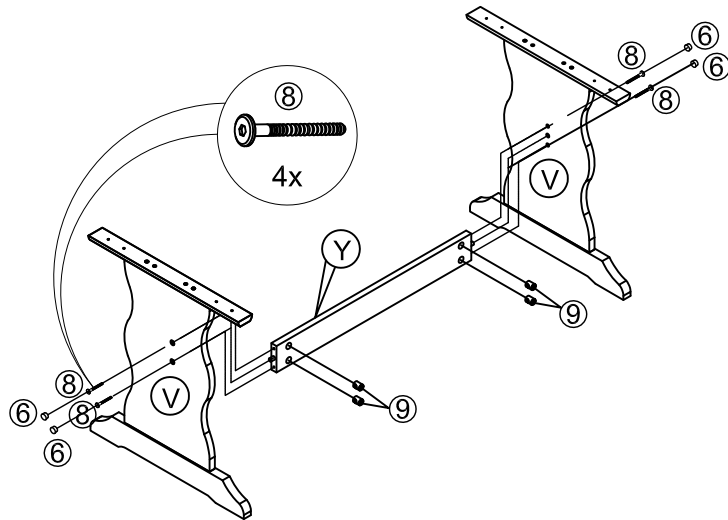

FIGURE 3
- 3.1 ATTACH CROSSBAR #Y TO LEGS #V INSERTING WOOD DOWELS LOCATED AT ENDS OF CROSSBAR INTO HOLES LOCATED ON LEGS. SECURE CONNECTION USING (04) SCREWS⑧AND (04) NUTS⑨. AS SHOWN IN FIGURE 3.
- 3.2 INSERT (04) WOOD HOLE COVERS⑥INTO HOLES LOCATED AT LEGS #V AS SHOWN IN FIGURE 3.